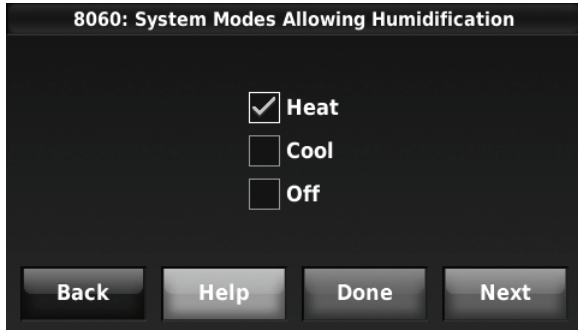

Fig. 215.
5. Select the system mode(s) to allow humidification. See Fig. 215.